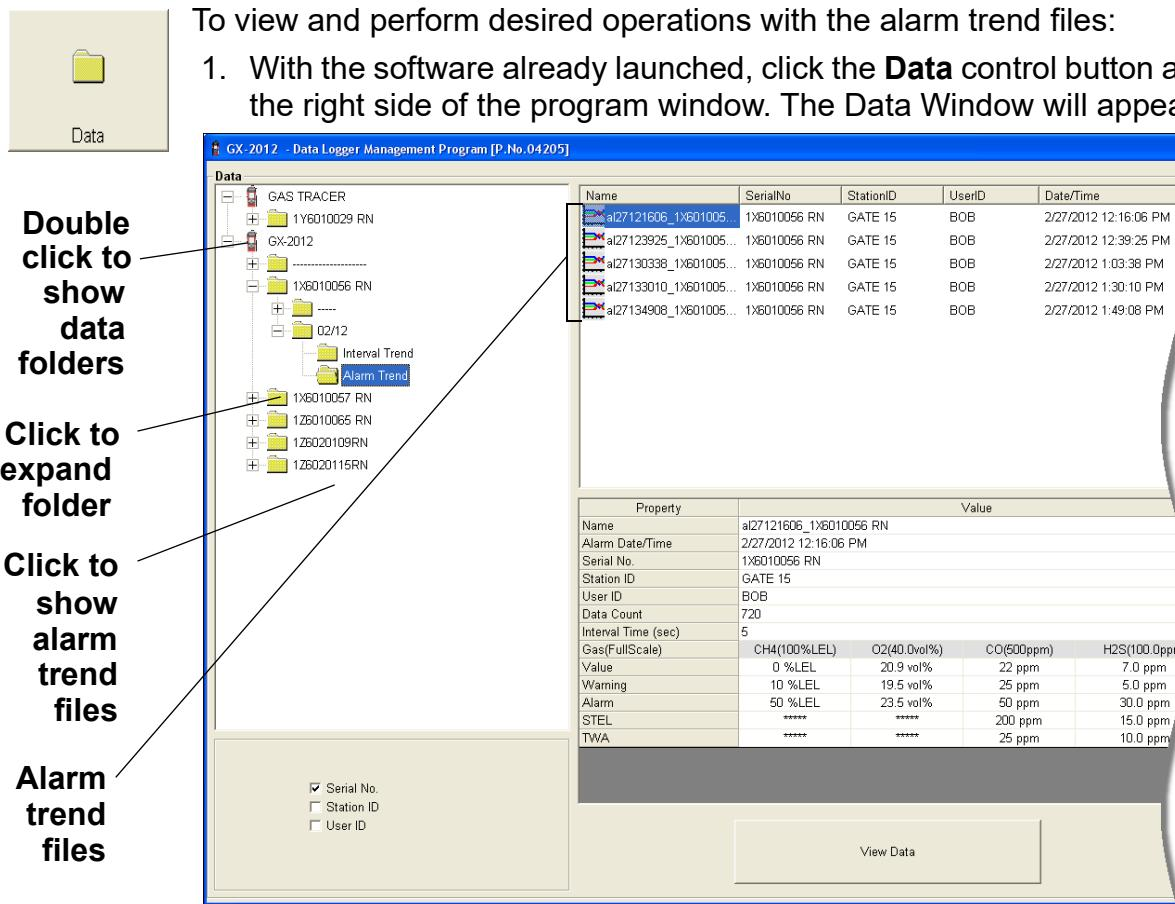

Figure 51: Data Window - Selecting Alarm Trend Data Files
- If you click the **Summary** button, the data window will split into two frames, one above the other, with the data table in the lower frame and the summary information shown in the upper frame. The summary information is the same as the information shown in the lower right frame in Figure 51.
- If you click the **Summary** button, the data window will split into two frames, one above the other, with the graph in the lower frame and the summary information shown in the upper frame. The summary information is the same as the information shown in the lower right frame in Figure 51. To return to the one frame format, click **Summary** again.